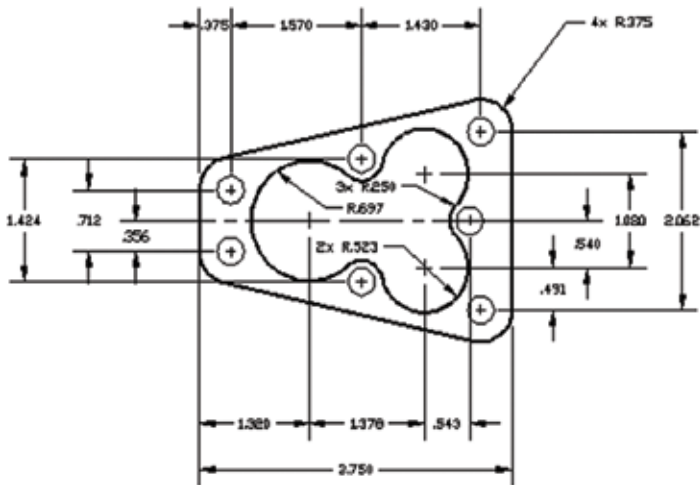

Figure 9.15
- Your drawing should now look like the one in Figure 9.15.